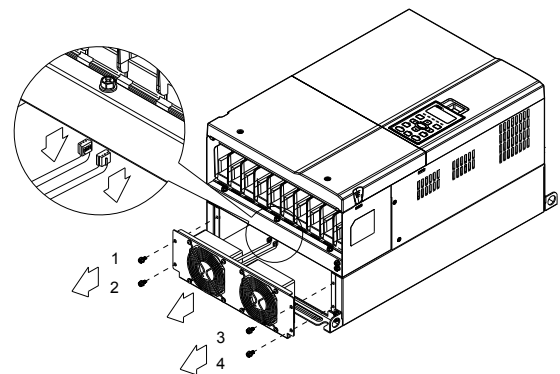

Figure 4
4. (Figure 4) Loosen the screws. Screw torque: 24~26kg-cm (20.8~25.6in-lbf).